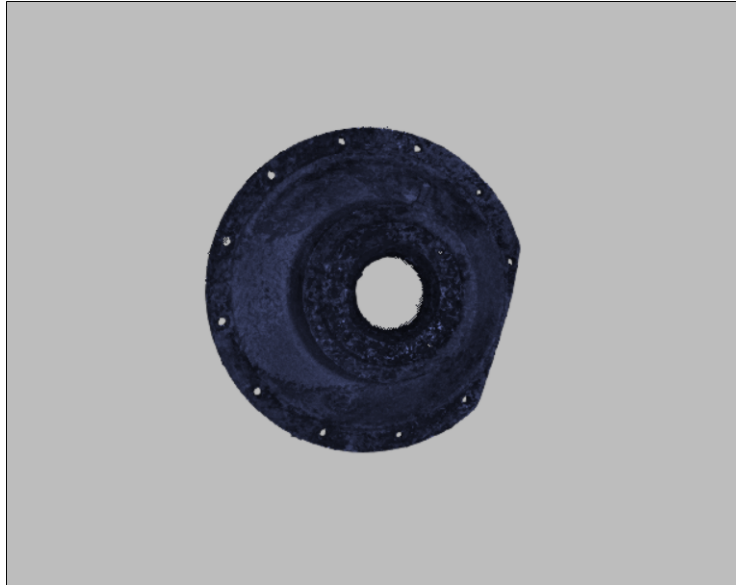

Figure 127: Alignment result.
5. Click *Align*. The result should be as Figure 127 depicts. If you are dissatisfied with this result, click  and follow the recommendations in Best Fit Alignment with Points.